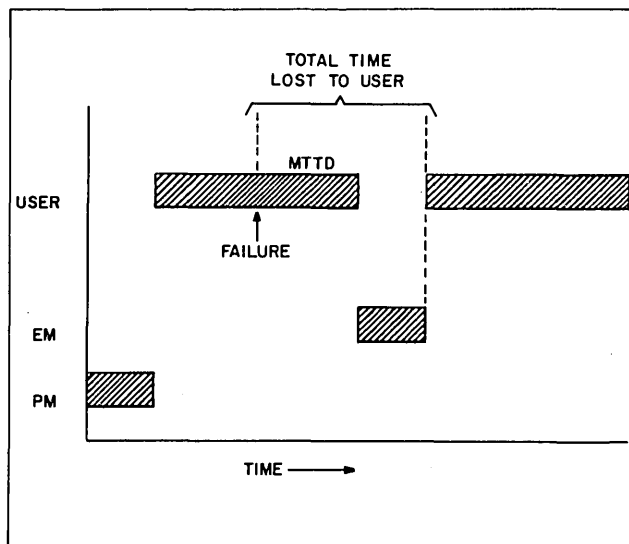

Figure 1-1. User Time Versus Maintenance Time
The traditional approach to system maintenance assumes that user time and preventive maintenance (PM) time are employed solely for the purposes indicated by their names. It further assumes the necessity of occasional emergency maintenance (EM) when a failure occurs. Unfortunately, time taken for EM becomes irrecoverable user time, as is the time between system failure and failure detection (mean time to detection, or MTTD). MTTD represents a need for rerun time for the user, and must be added to EM time to determine total time lost to the user. This relationship is illustrated in figure 1-1.